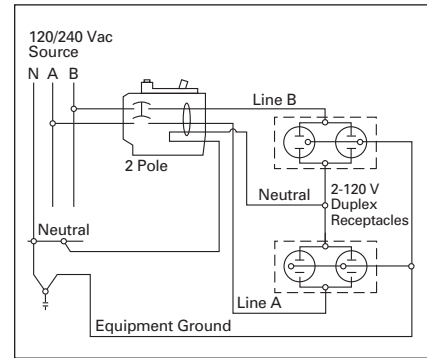
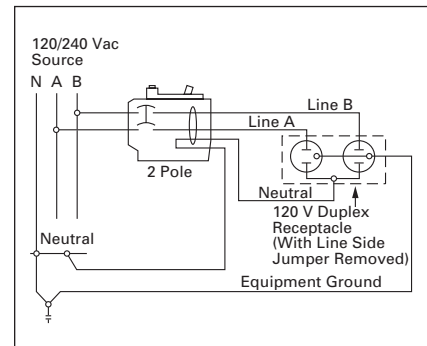

Figure 4-13. 2-Pole Shared Neutral with Multi-Duplex Receptacle Application
Figure 4-15. 2-Pole Shared Neutral with Duplex Receptacle Application
② Independent trip refers to 2-pole shared neutral circuits (see Figure 4-13 and Figure 4-15).
③ Requires plug-on neutral loadcenter.
⑤ Independent trip refers to 2-pole shared neutral circuits (see Figure 4-13 and Figure 4-15).